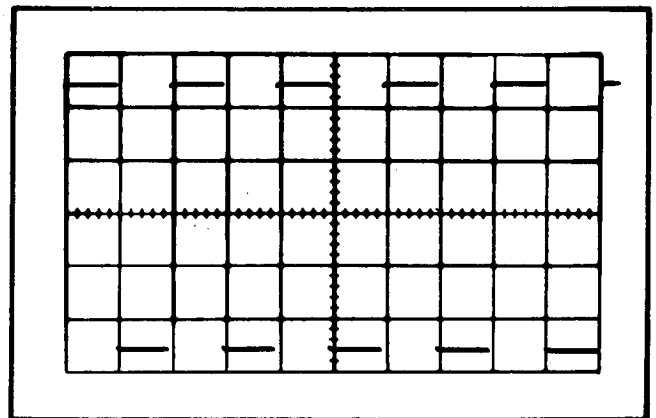

Fig. 5-2. Typical CRT display showing correct vertical gain.
d. CHECK—CRT display for five divisions of deflection (see Fig. 5-2).